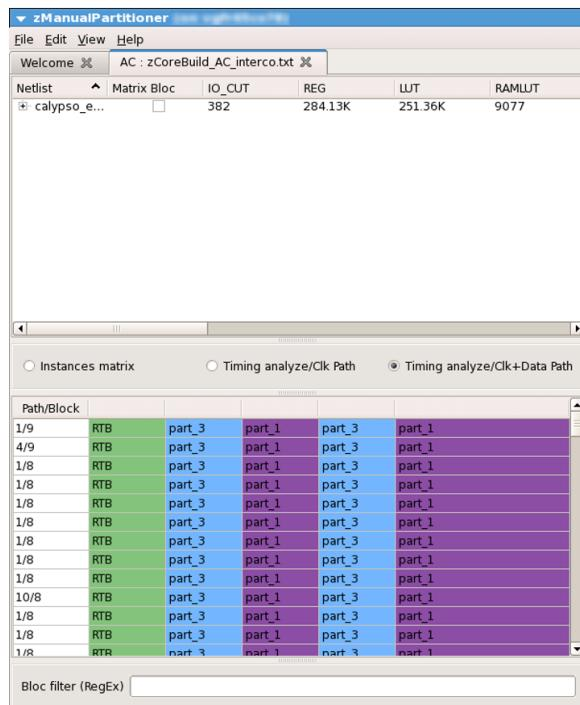

FIGURE 64. Timing Analysis Pane Refreshed
6. Select **Edit > Timing Analyze** to refresh the **Instance Interconnection Matrix** pane according to your modifications (see Figure 64).